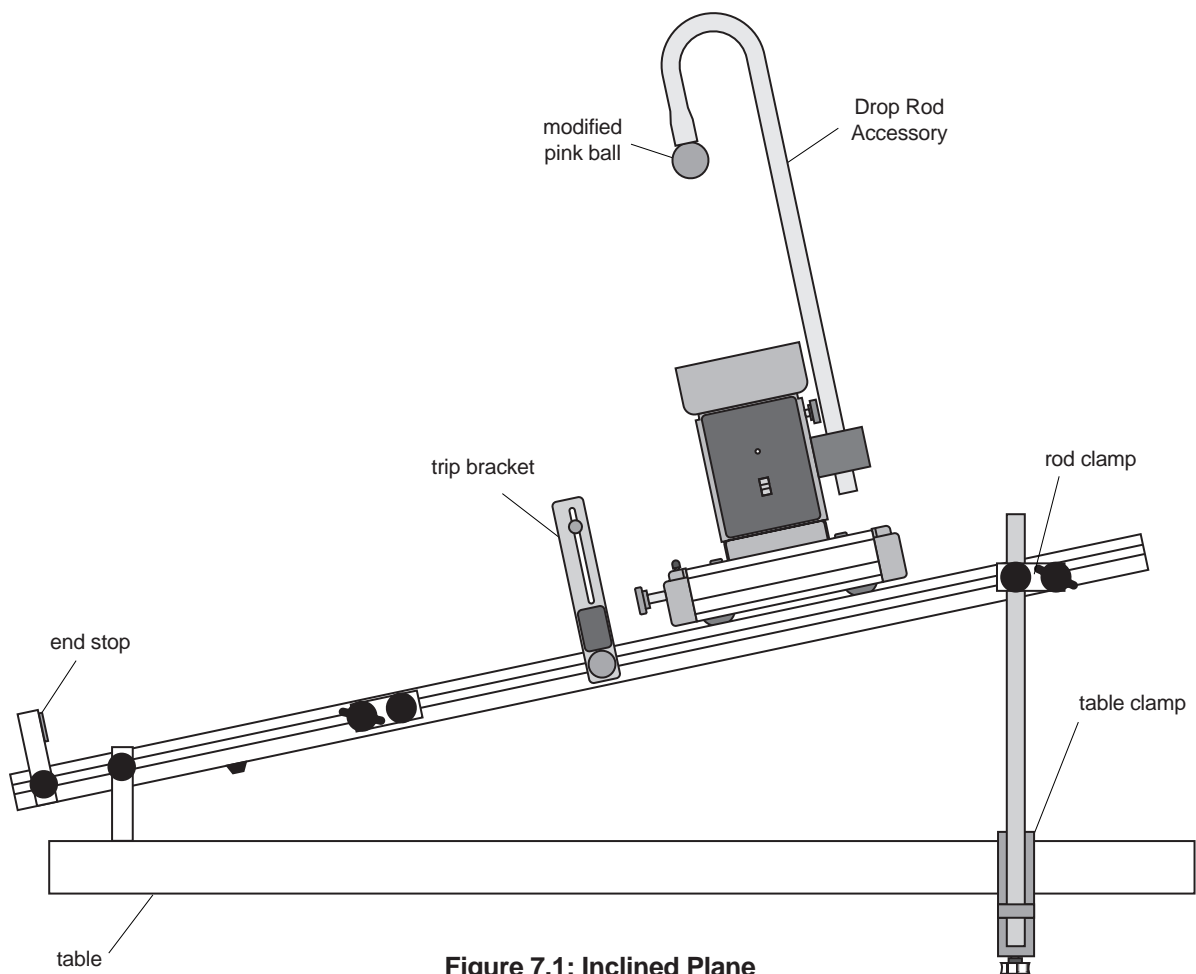

Figure 7.1: Inclined Plane
- ③ Incline the track (see Figure 7.1) using the table clamp and rod. Be careful not to choose too high an angle because the cart will reach such a high speed that it will crash at the bottom. For any angle you choose, be sure you catch the cart at the bottom to keep it from derailing and crashing to the floor.
- ④ Put the photogate trip bracket in a position where it will drop the ball after the cart has begun to move.
- ⑤ Start the cart at the top of the incline, hang the ball on the drop rod, and release the cart. The ball will land in the cart.
- ⑥ Repeat the demonstration for a different angle.